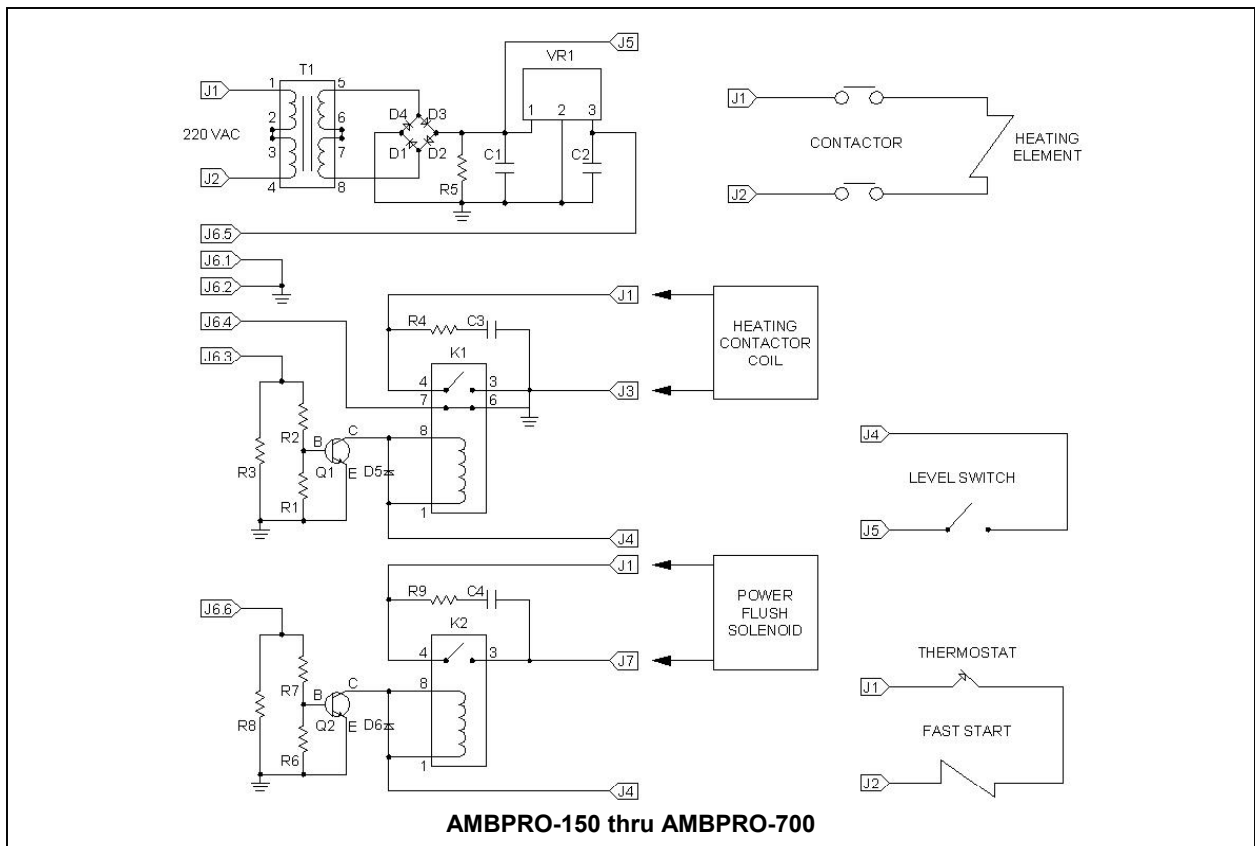

Figure 6
2. Plug the attached power cord into the AC receptacle (AMBPRO-150 thru AMBPRO-450). On the AMBPRO-575 & AMBPRO-700, connect 230-VAC electrical lines to wires labeled 1 & 2 in electrical box on the generator and an approved ground to the green safety grounding wire (see Figure 6).